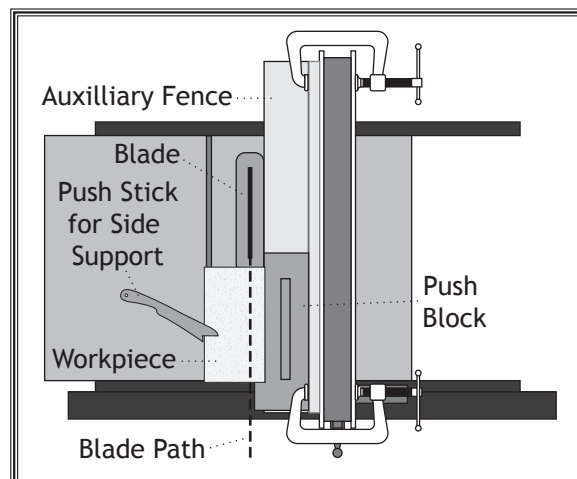

Figure 79. Setup in preparation for ripping.
3. Place the workpiece 1" behind the blade and evenly against the table and the auxiliary fence, as shown in Figure 79.